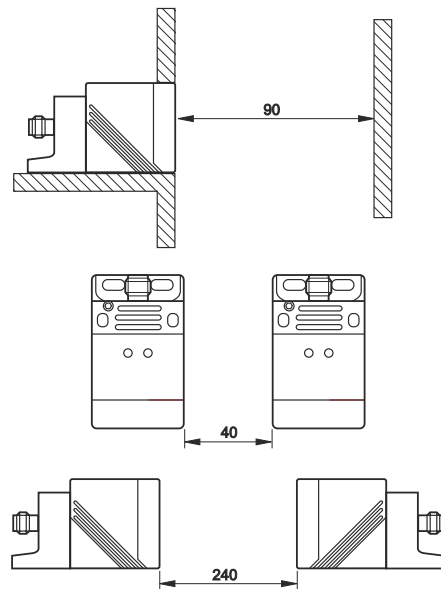
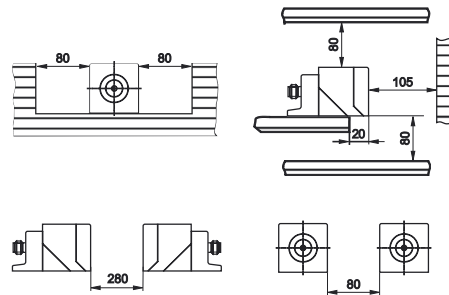

Figure 3: Minimum distances when mounting the IN40-E0101K safety switch
Figure 4: Minimum distances when mounting the IN40-E0109K safety switch
- The specified minimum distances for adjacent and opposite sensors and the minimum distances to fixed system components and walls must be maintained (see figure 3 and figure 4).